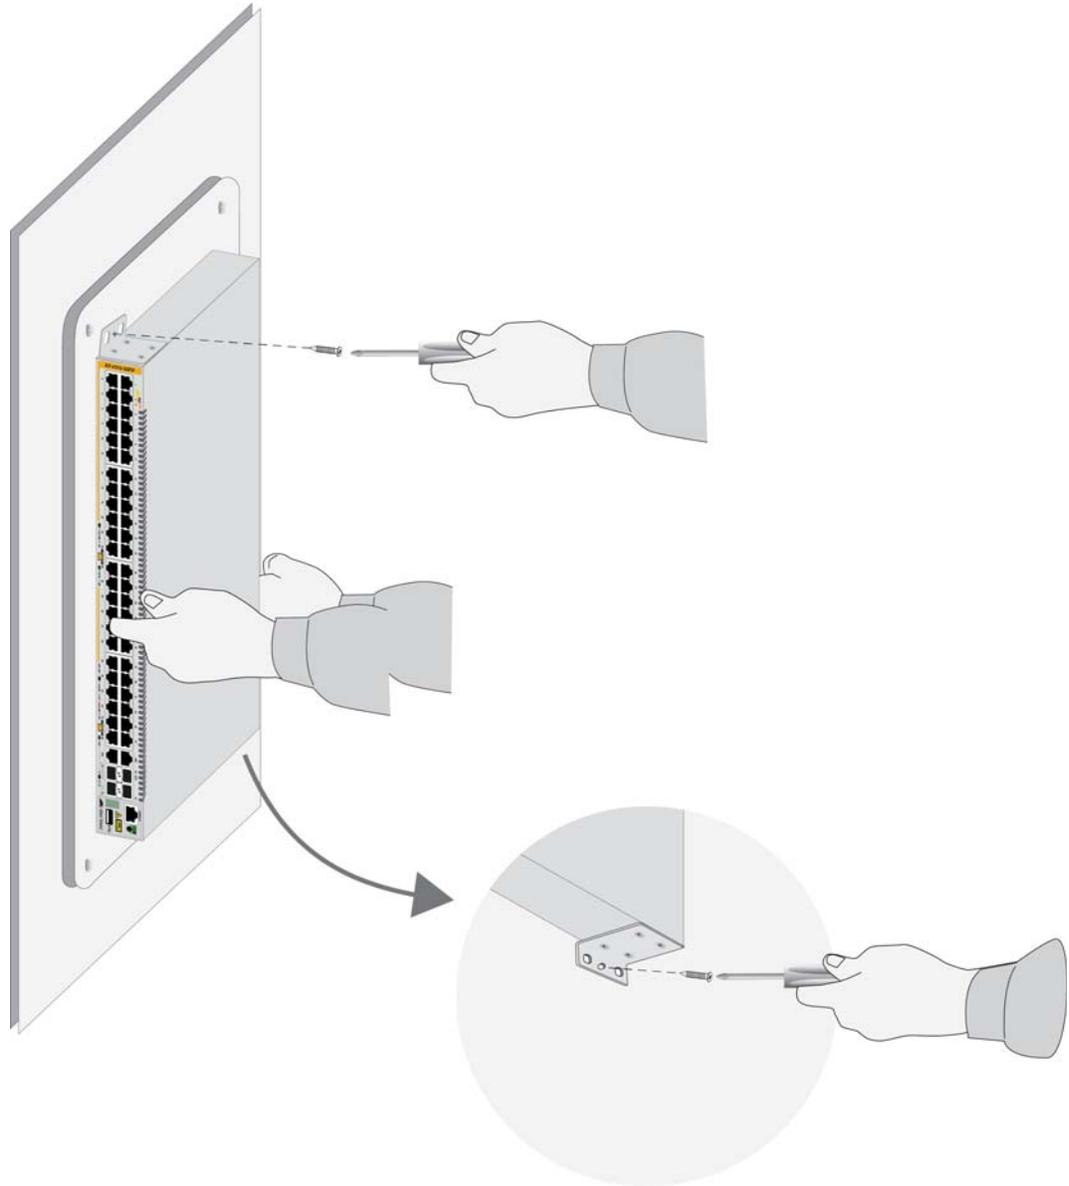

Figure 37. Securing the Switch to the Plywood Base
3. Have another person hold the switch on the plywood base on the wall while you secure it with the two provided screws. Refer to Figure 37 on page 81.